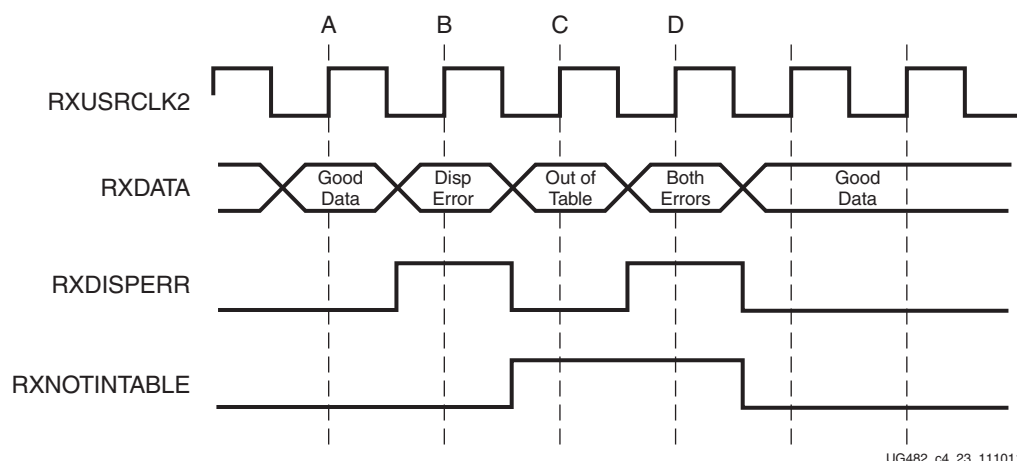

Figure 4-23: RX Data with 8B/10B Errors
Figure 4-23 shows a waveform at the RX data interface when the decoder receives good data (A), data with disparity error (B), an out-of-table character (C), and an out-of-table character with disparity error (D).